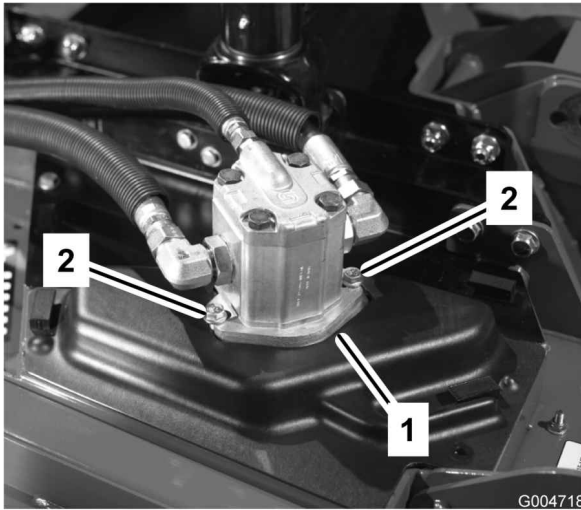

Figure 65
4. Remove the bolts securing the hydraulic motor to the cutting unit (Figure 65). Lift the motor off of the cutting unit and lay it on top of the cutting unit.